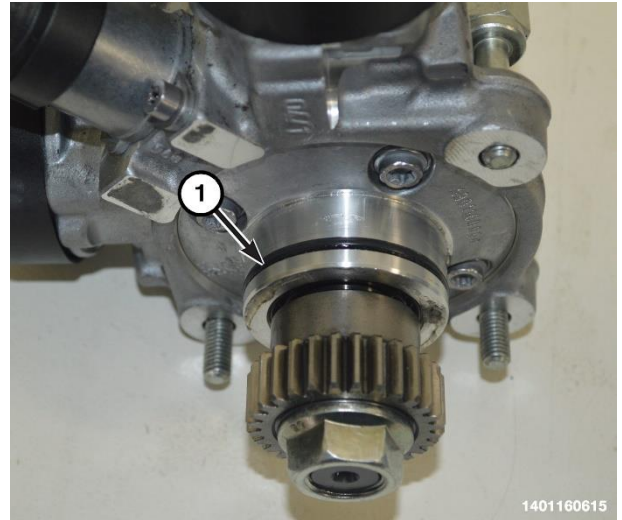

Figure 141 – O-ring Seal
- 81. Install a **NEW** O-ring seal (1) to the fuel injection pump (Figure 141).